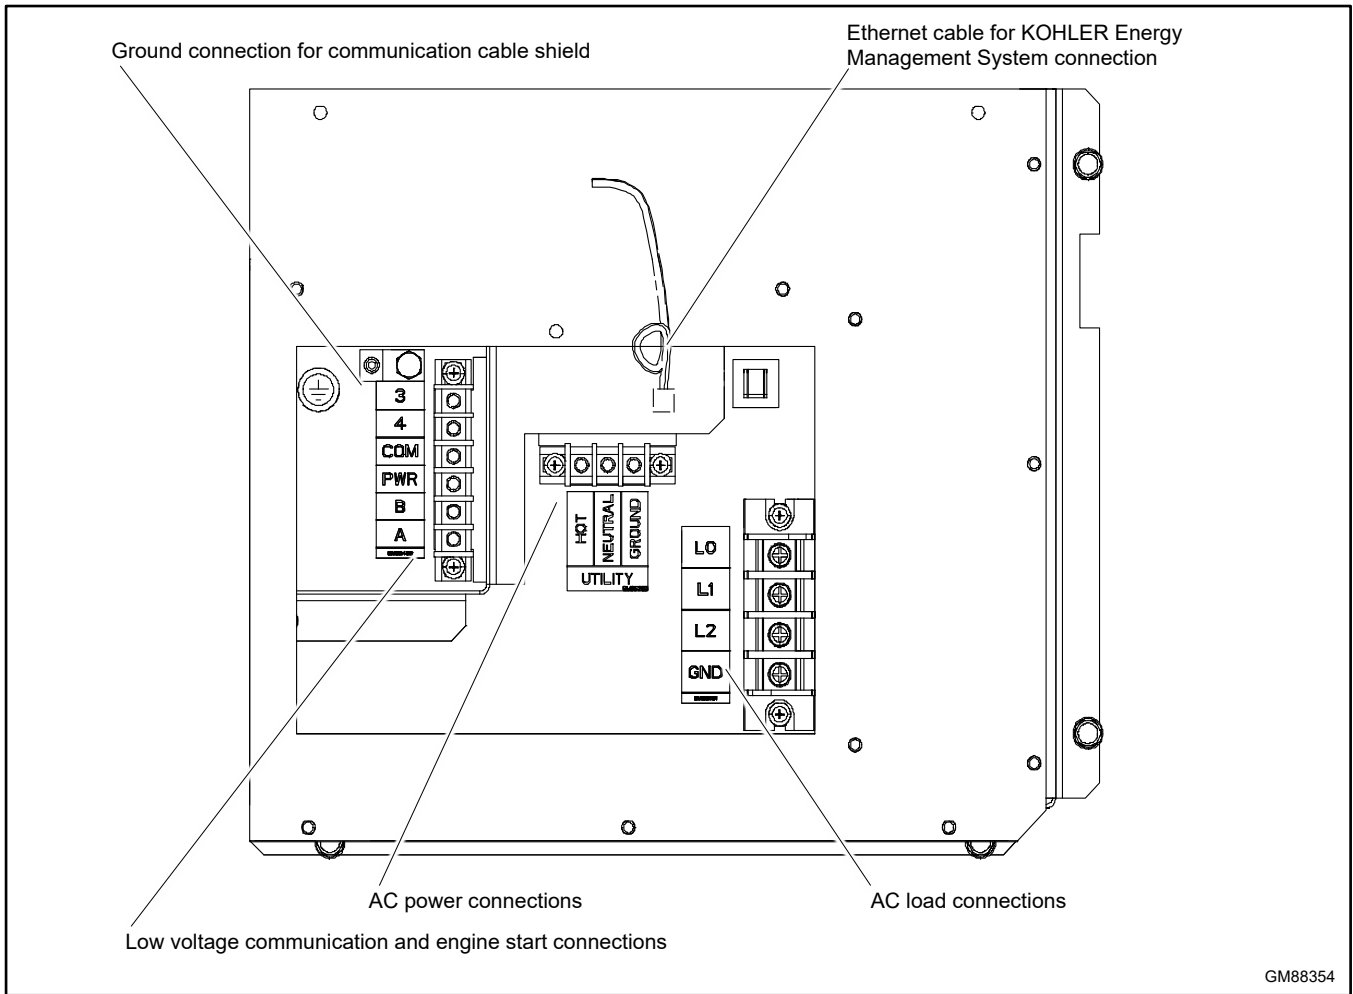

Figure 24 Electrical Connections
See Figure 24 for terminal block details. Refer to the terminal block decal for connections and cable sizes. Also see the wiring diagram in the Drawings and Diagrams section.
- (1) Turn OFF any wireless connections to the laptop.
- (2) Connect the Ethernet cable to the laptop. Connect the other end of the Ethernet cable to the customer's router or modem.
- (3) Verify the Internet connection by opening your web browser and going to [kohlergenerators.com](http://kohlergenerators.com) or any known website.
- (4) Disconnect the Ethernet cable from the laptop.
- c. Use an RJ45 inline coupler to connect the Ethernet cable to the cable in the customer connection box. See Figure 24. The inline coupler is included with the wireless kit.